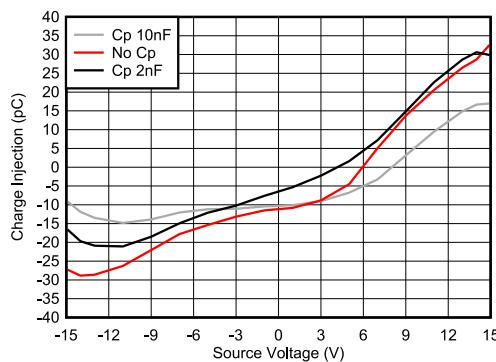

图 7-3. Charge Injection Compensation
The TMUX6219 contains specialized architecture to reduce charge injection on the source (Sx). To further reduce charge injection in a sensitive application, a compensation capacitor (C_p) can be added on the drain (D). This will ensure that excess charge from the switch transition will be pushed into the compensation capacitor on the drain (D) instead of the source (Sx). As a general rule, C_p should be $20\times$ larger than the equivalent load capacitance on the source (Sx). 图 7-3 shows charge injection variation with source voltage with different compensation capacitors on the Drain side.